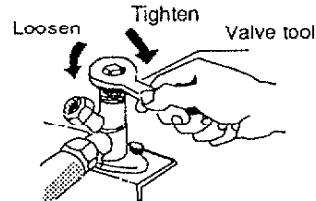

Fig. 17
- Open the wide tube service valve by a quarter turn and close it as soon as the hissing stops. Thus indicates that the tubes are filled with the refrigerant gas of the outdoor unit. (Fig. 17)